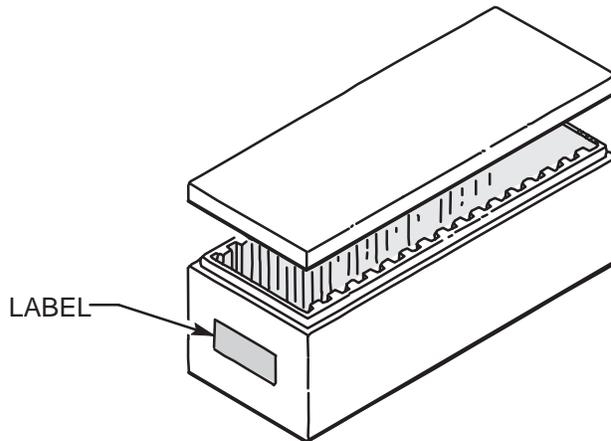

Figure 1. Unit Container with Slots to Hold Bagged Substrates
- 3.2.2 Pack up to one hundred (100) individual substrates in a covered plastic or metal box, fitted with slots to separate and hold substrates vertically (Figure 1). Place cover on box and secure with tape or mechanical closure.